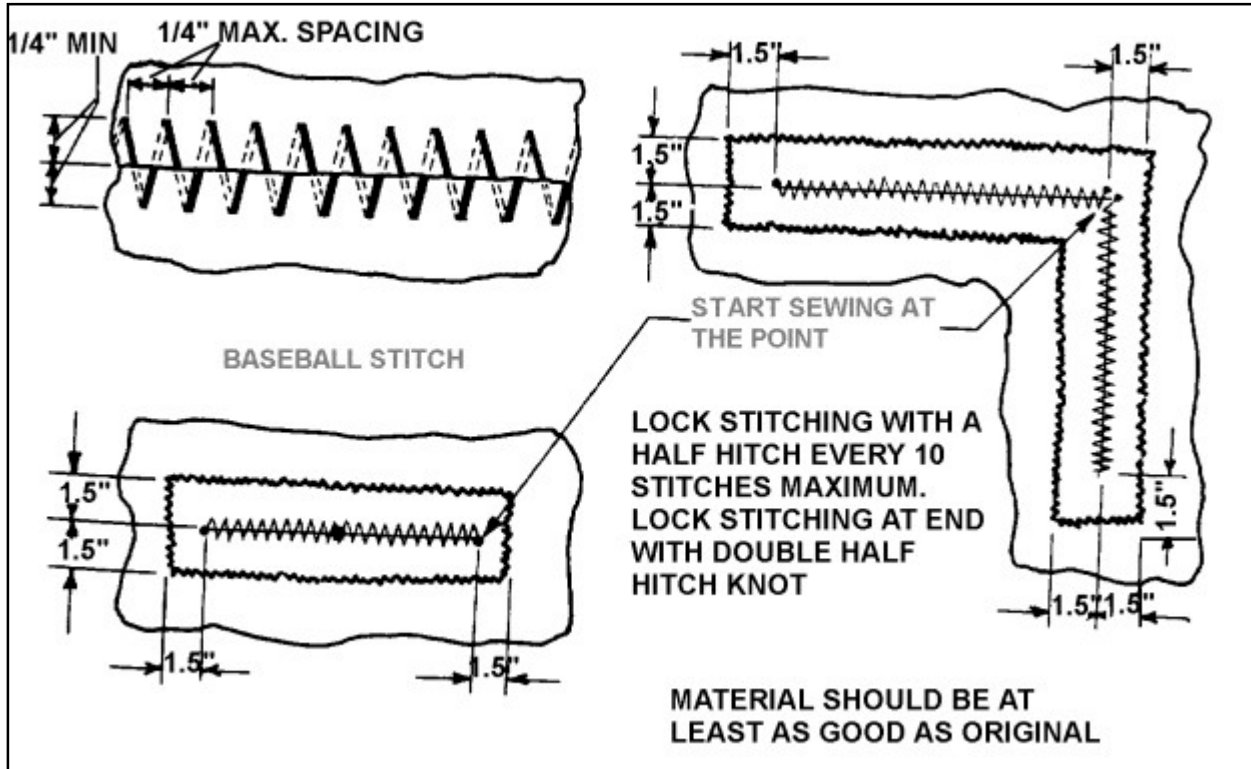
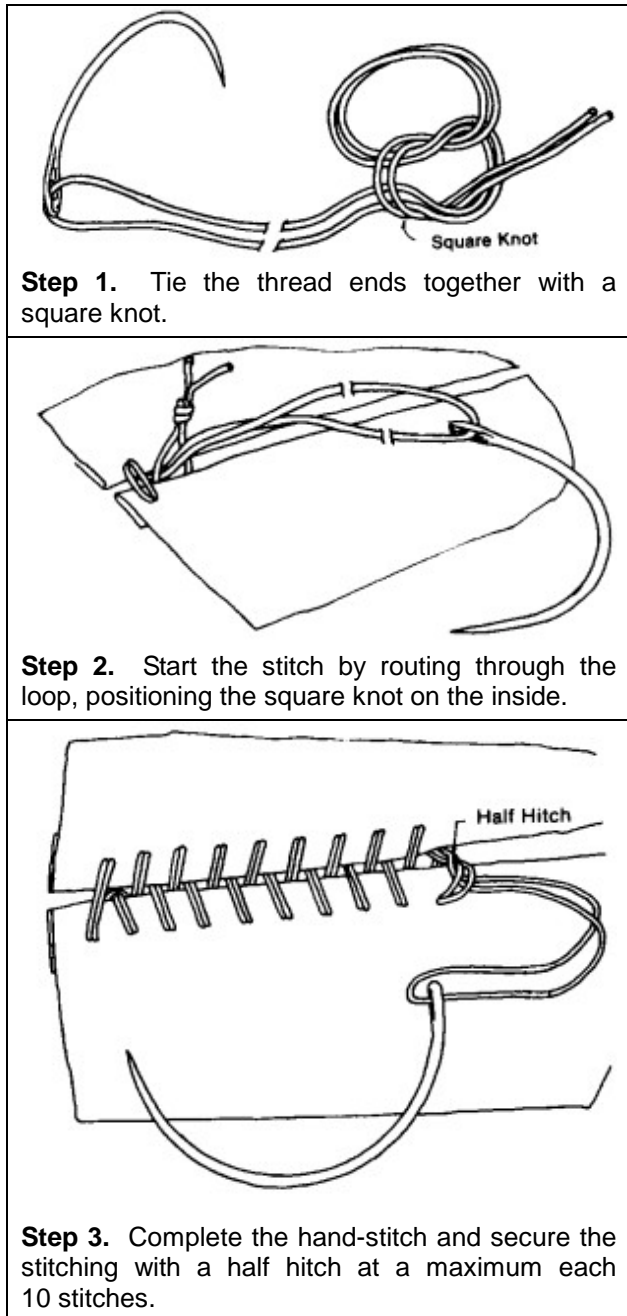

FIGURE 2-13. Repair of tears in fabric.
FIGURE 2-14. Hand-stitch detail.
**h. When repairing a covering material other than cotton or linen**, which was approved with the manufacturer's type certificate (TC), or approved under the authority of an STC, follow the repair instructions furnished by the aircraft manufacturer or supplier of the STC-approved covering materials.
**2-43. REPAIR OF TEARS AND ACCESS OPENINGS.** When all the original fabric is intact, an opening may be repaired by sewing the two sides together with a curved needle as illustrated in figures 2-13 and 2-14. The fabric edges should be pulled together uniformly with no wrinkles. Before sewing, remove the old dope coats down to the clear dope coats a distance of 2 inches on each side of the opening. The hand-sewn thread quality should be at least equal to that specified in table 2-2 and treated with wax (paraffin-free or beeswax) to prevent fraying, or use the proper thread on the STC application. After sewing, apply a coat of clear dope over the cleaned area and install a 3-inch wide finishing tape, centered over the stitches.
a. **After cutting out the damaged section** and removing the coatings as detailed in paragraph 2-42, the new fabric section should be sized to allow folding both edges of the fabric back 1/2-inch to increase the stitch tear resistance. Temporarily attach the four corners in position with thread. Start with a double thread with a square knot at the end (see figure 2-14) and continue stitching in the manner described in figures 2-13 and 2-14. When the stitching is complete, wet the new fabric section as described in paragraph 2-21 to remove any creases. After drying, apply one coat of clear dope on the new fabric, as described in paragraph 2-21. When the first coat of dope has dried 1 hour at 70 °F, apply a 3-inch wide finishing tape, centered over the stitches. The finishing tape should be well saturated with